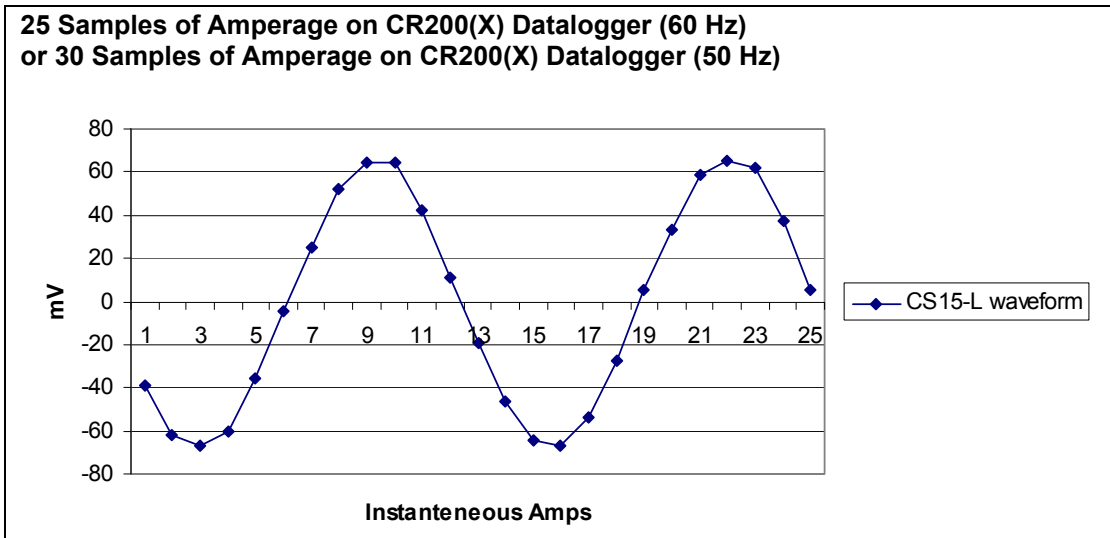

FIGURE 3. Graph of a CS15 waveform
The recommended programming method for CR200(X)-series dataloggers (where the scan interval is limited to once per second) is to place the VoltSE instruction within a loop. The first CR200(X) example program has a loop that samples 25 times, and the second CR200(X) example program has a loop that samples 30 times. A 25-sample loop produces almost two cycles of a 60 Hz wave form, and a 30-sample loop produces almost two cycles of a 50 Hz wave form (see Figure 3). The average energy under the curve is calculated using the RMSSpa instruction. A multiplier of 0.2 is applied to the RMS value; see Section A.4 for more information.